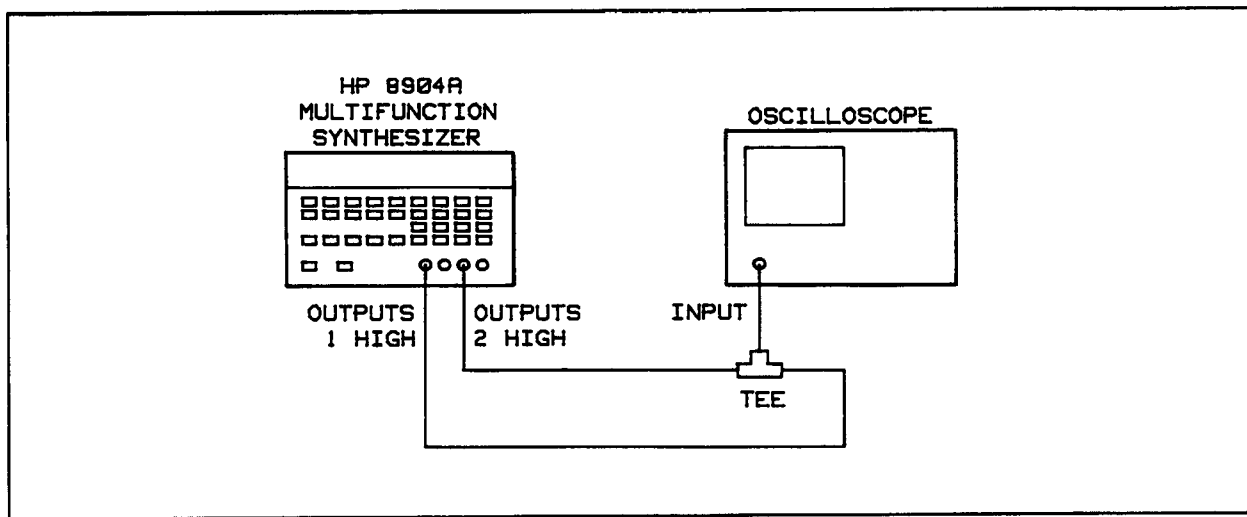

Figure 4-5. Output 1-to-Output 2 Phase Accuracy Performance Test Setup
1. Connect the Multifunction Synthesizer OUTPUTS 1 HIGH output and OUTPUTS 2 HIGH output together with a tee, and connect the tee to the oscilloscope's input. Switch the oscilloscope input to 50Ω or connect a 50Ω load at the input using a second tee. Refer to Figure 4-5.